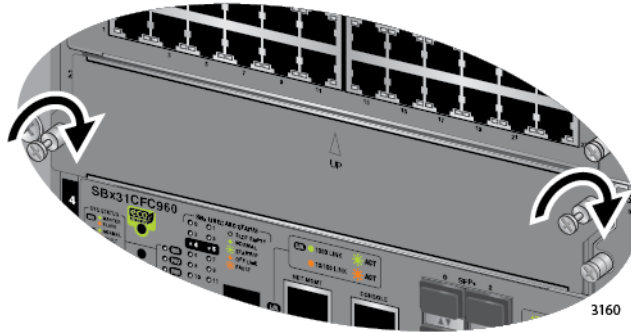

Figure 79. Tightening the Thumbscrews on a Blank Slot Cover
2. Finger tighten the two thumbscrews to attach the blank panel to the chassis, as shown in Figure 79 on page 139.